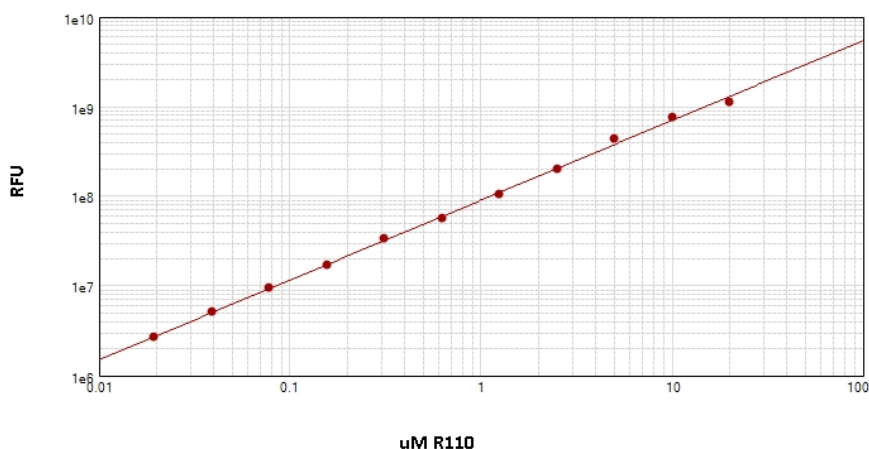

Figure 3-1: R110 Standard Curve
6. Plot RFU versus R110 concentration to generate a standard curve. See Figure 3-1.